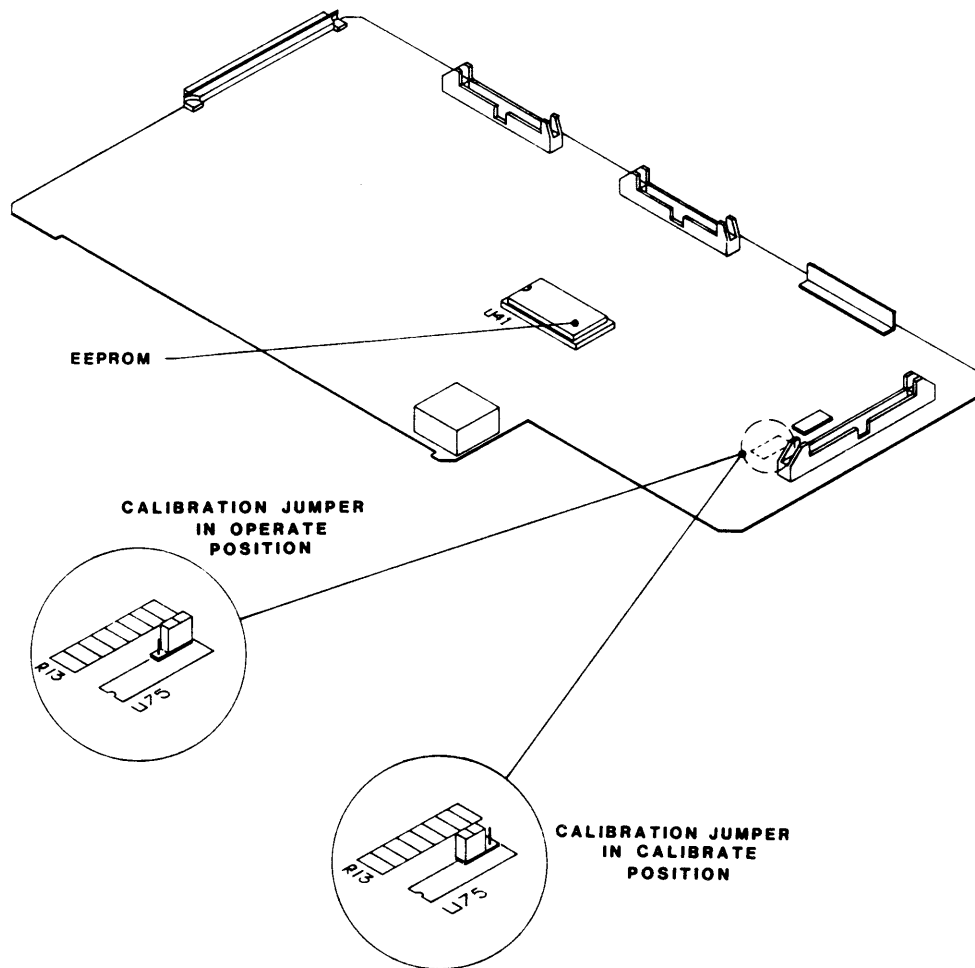

Figure 2-9 Calibration Jumper Location
- C) On Drive Electronics Board (Figure 2-9), move the Calibration Jumper from IC Connector U75 pins 8 and 9 to pins 9 and 10 .